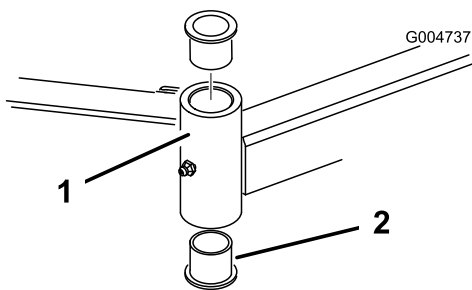

Figure 97
4. Insert a pin punch into the top or bottom of the mounting tube and drive the bushing out of the tube (Figure 97). Also drive the other bushing out of the tube. Clean the inside of the tubes to remove dirt.